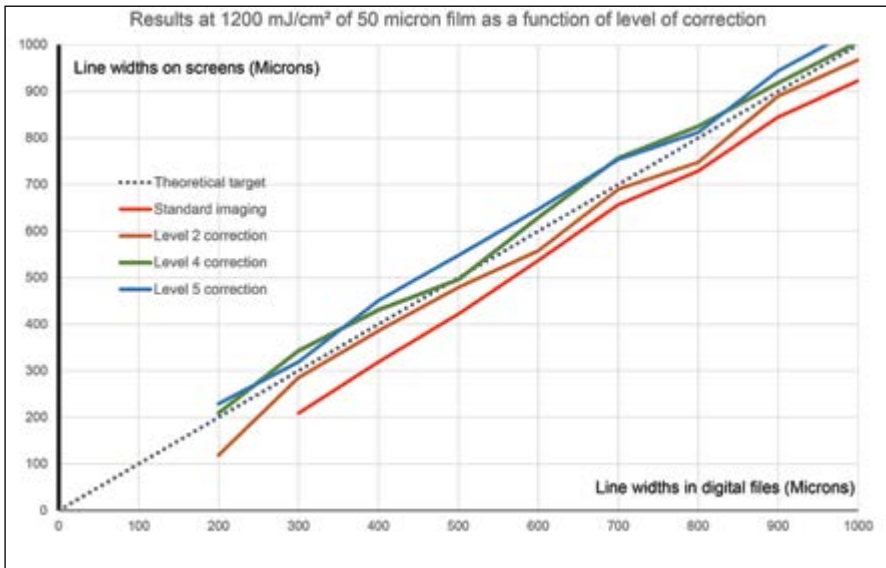

Figure 8: XITend imaging results at 1200 mJ/cm2 as a function of level of correction for the 50-micron capillary film on 43 mesh white polyester
**Figure 8** shows X!Tend results at 1200 mJ/cm2 for this 50-micron film. A level 3 X!Tend correction will do the job here.